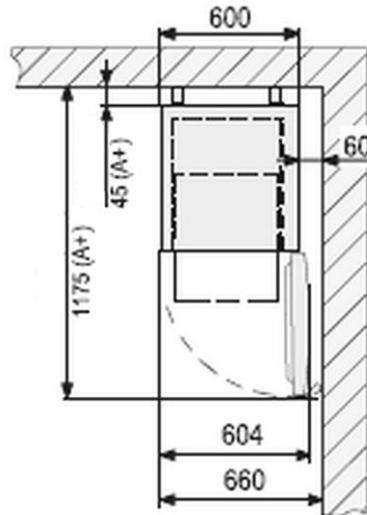

Fig. 4
- If the appliance is to be installed in a corner, maintain a lateral clearance of at least 60 mm (Fig. 4).